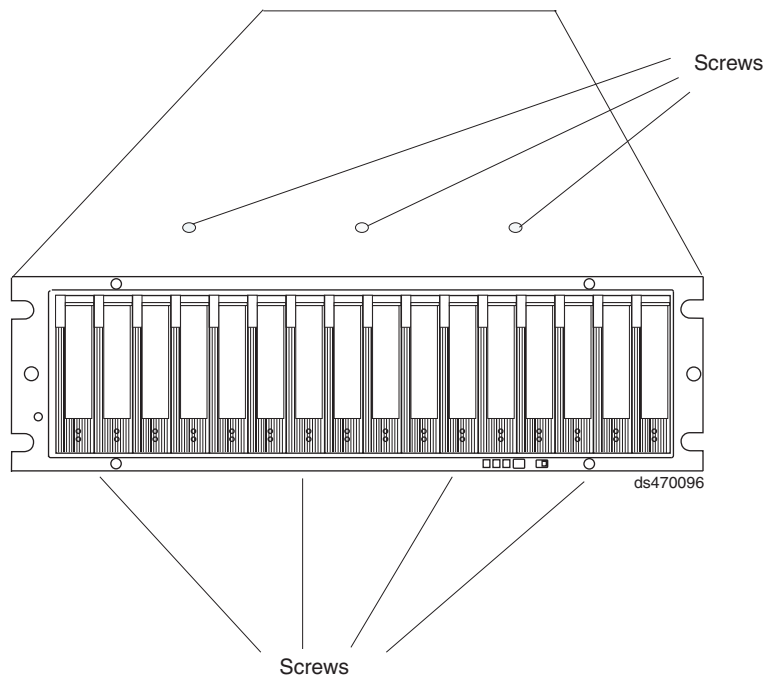

Figure 40. Screws holding the top and bottom sides of the chassis to the cage frame
13. Pull the chassis outward from the front of the rack and remove from the rack. Place it on a level surface. Look for a row of three Phillips screws on top of the chassis and a row of four Phillips screws on the bottom of the chassis, as shown in Figure 40. Remove the seven Phillips screws using the #1 Phillips screwdriver. Save these screws.
18. Install the seven Phillips screws (three on top and four on bottom) that hold the front cage frame to the EXP5000 chassis that you removed in step 13, as shown in Figure 40.